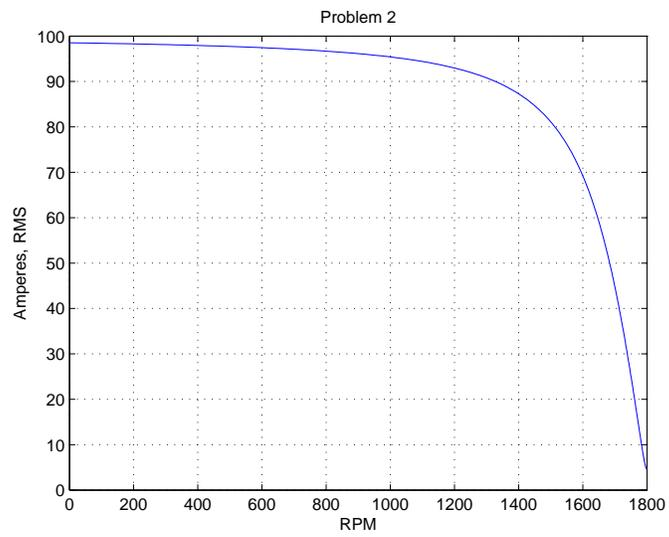

Figure 6: Induction Motor Current vs. Speed
2. Current vs. speed is plotted in Figure 6.